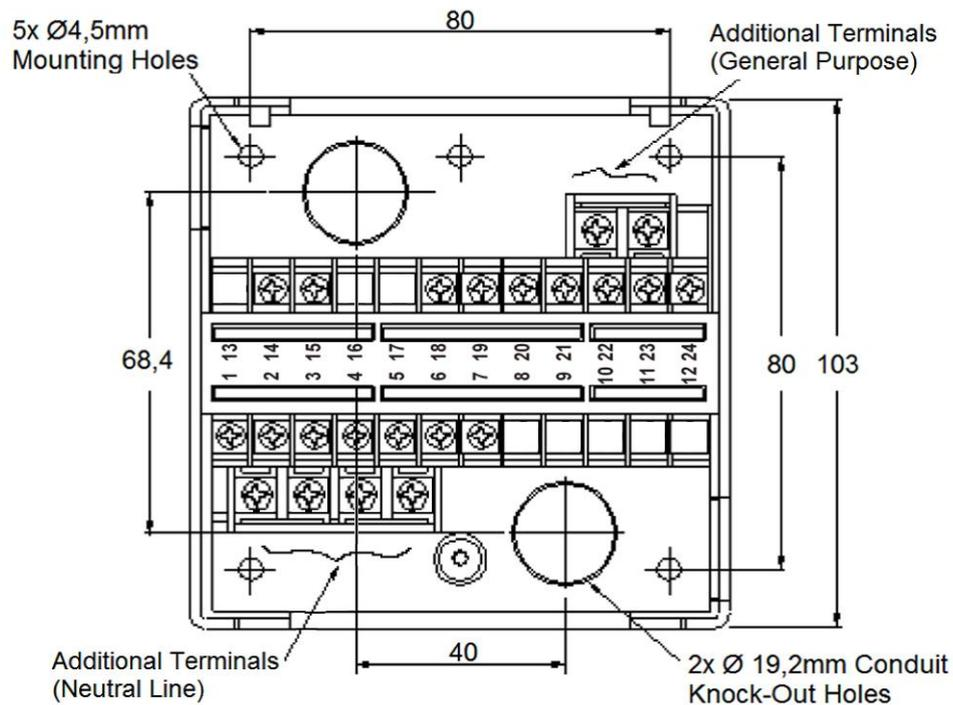
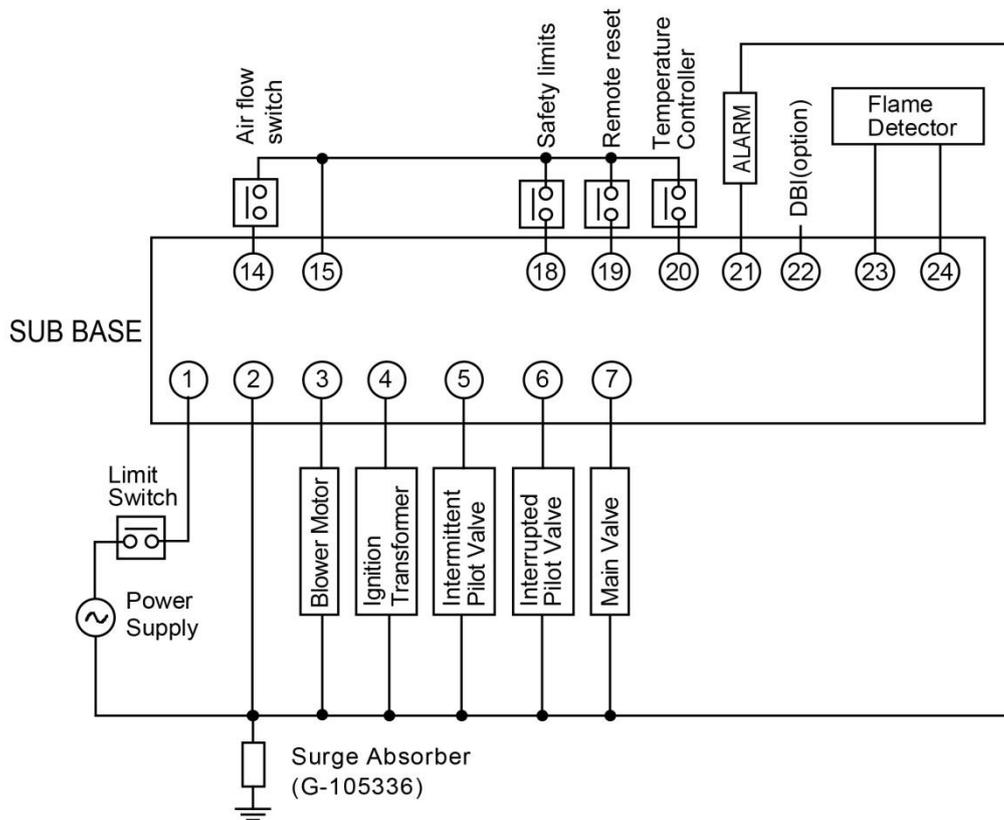

Fig. 2: Mounting dimensions of sub-base and terminal layout
Fig. 3-1: Example of wiring to external equipment (see fig 3-2 for more)
1. Fig. 2 shows the layout of the terminals on the subbase, and Figs. 3-1 to 3-3 show examples of connections to external equipment. Regarding the wiring to the flame detector, refer to Fig. 4.